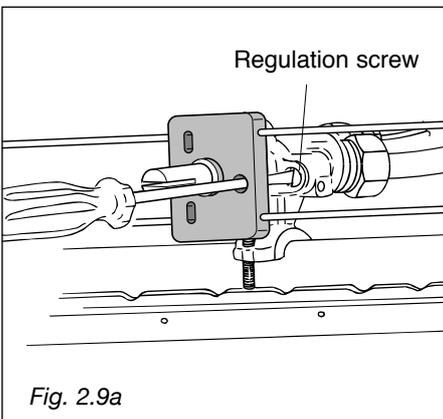

Fig. 2.9a
- With a thin screwdriver, turn the regulation screw (Figs. 2.9a and 2.9b) until adjustment is correct. On some valves, you need to pass by the hole of the microswitch (Fig. 2.9a) to turn the regulation screw.